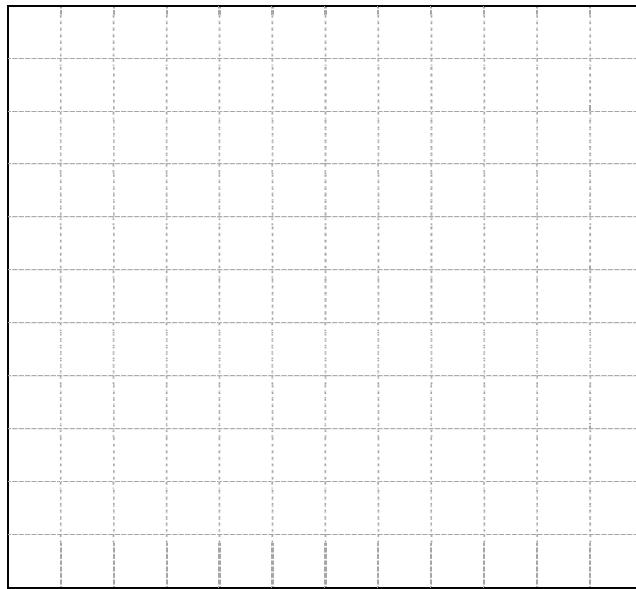

Figure 1-9. Constant torque and reduced torque V/f characteristics.
- 20.** Plot the curves showing the constant torque and reduced torque V/f characteristics in Figure 1-9.